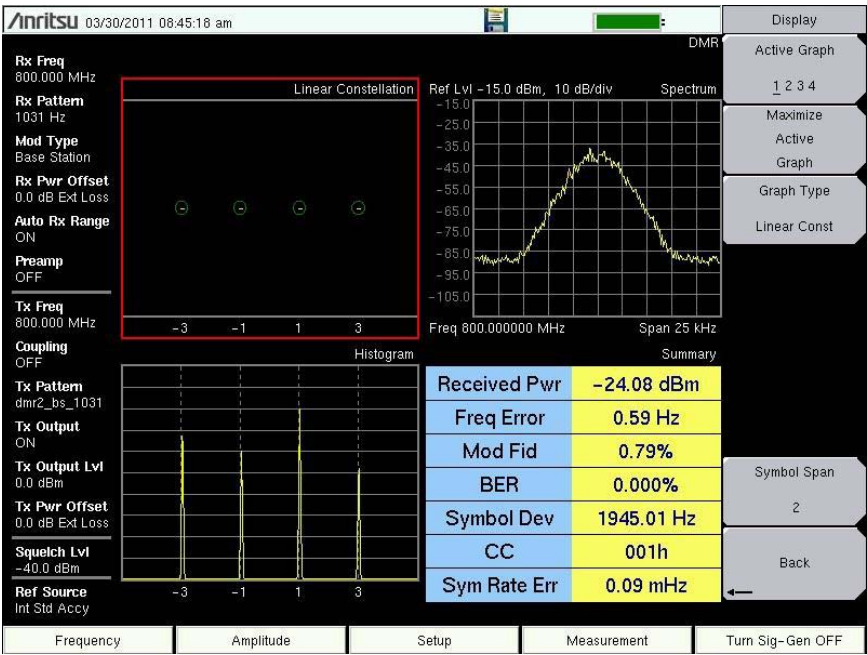

Figure 3-11. Analyzer Measurements (Active Graph has the Red Outline)
- 1. Press the **Measurement** main menu key, then press the NBFM Analyzer submenu key. Press Graph Type to set the displayed graph types (Figure 3-11).
1. Press the **Measurement** main menu key, then press the P25 Analyzer, P25p2 Analyzer, NXDN Analyzer, dPMR Analyzer, DMR Analyzer, PTC Analyzer, or the TETRA Analyzer submenu key. Press Graph Type to set the displayed graph types (Figure 3-11).